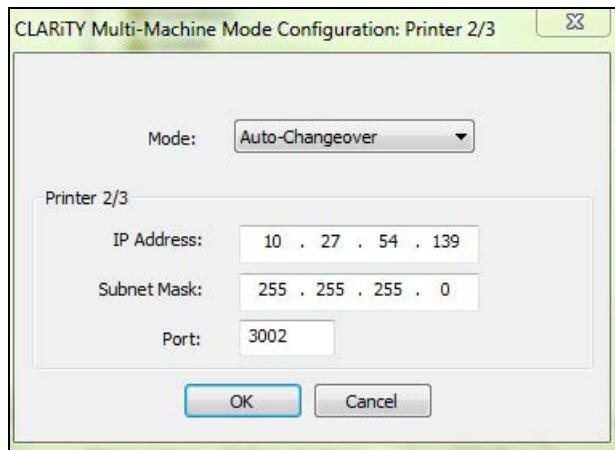

Figure 8-16: Auto-Changover Mode
- 3 Select *Auto-Changover* mode from the drop down list (see Figure 8-16).
- 4 Enter the IP address, network subnet mask, and the port number of LPA 2/3 in the IP Address field, Subnet Mask field, and Port field respectively (see Figure 8-16).